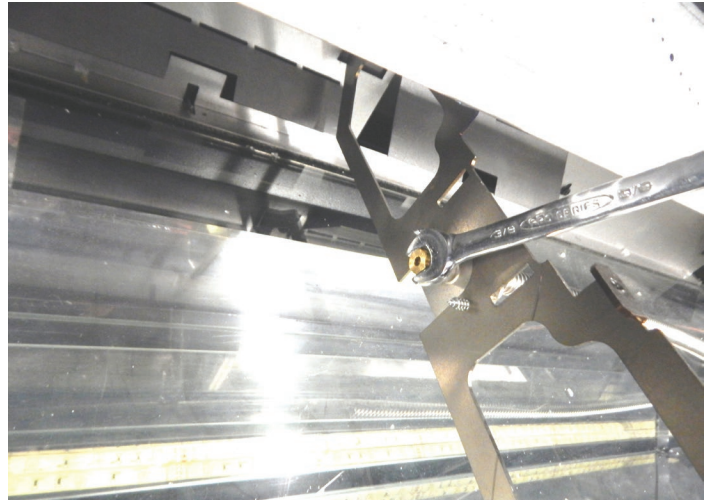

Figure 6
12. Using a 3/8" wrench, remove the 2.15 mm orifice from the orifice holder and discard. **See Figure 6.**
13. Install the new #26 orifice into the orifice holder. Do not overtighten. **See Figure 6.**